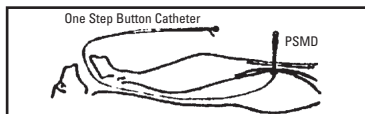

Figure 1
- Slide the One Step Button Catheter over the guidewire exiting the patient's mouth (Figure 1).